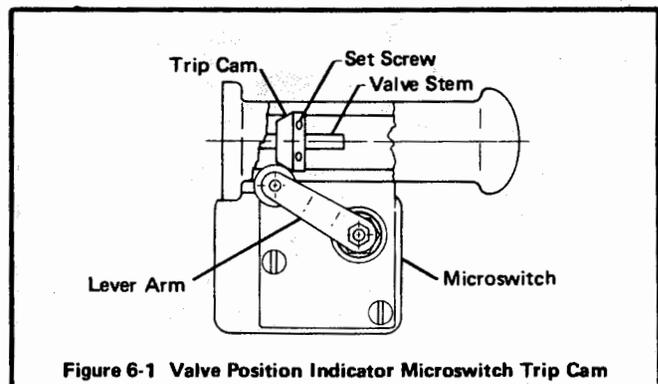

Figure 6-1 Valve Position Indicator Microswitch Trip Cam
6-2 Low Flowrate Adjustment (Refer to Figure 6-1.)
3. Position the cam precisely as illustrated in Figure 6-1. Make sure the microswitch swing arm roller is on the beveled surface of the cam.